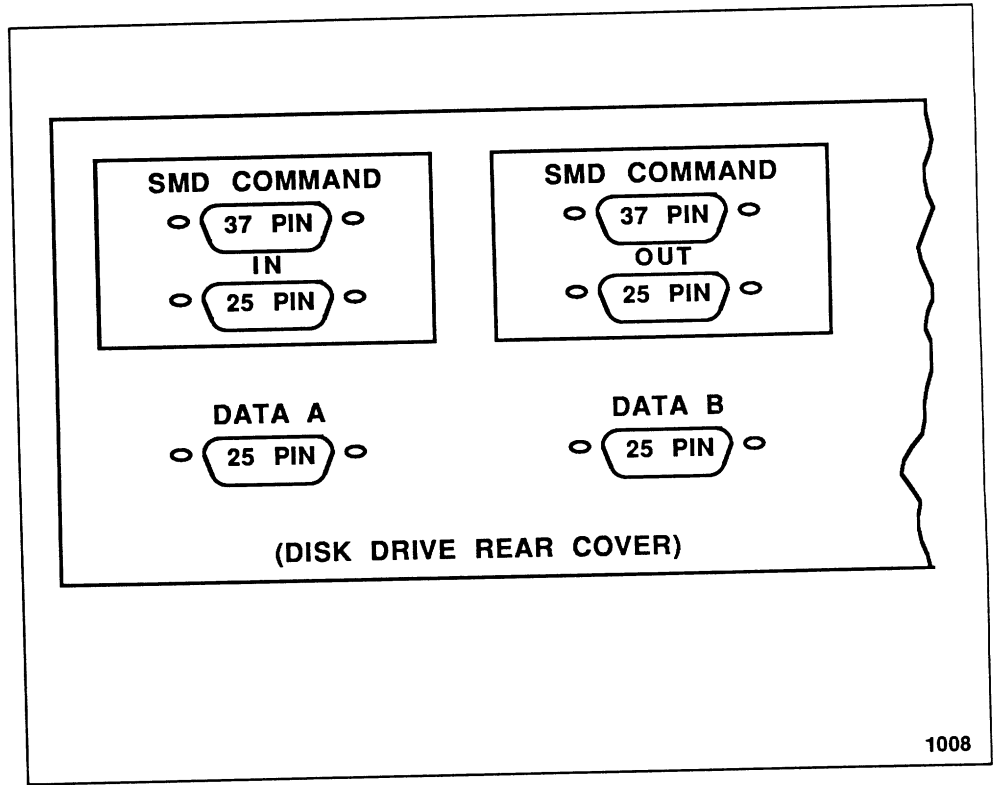

Figure 4-1 *Connectors on the Rear of Disk Drive Cover*
1. Find the data and command cables (either white or grey cables) that run from the system CPU to the Model 2351A disk drive cover (figure 4-1). Disconnect cables *at the disk drive*.
9. Reconnect the command and data cables to the disk drive at the three connectors labeled SMD COMMAND, IN, and DATA A as shown in figure 4-1.